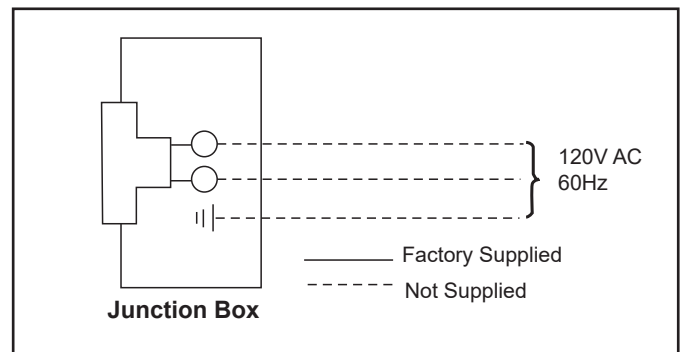

Figure 1 - Junction Box Wiring Diagram
3. The junction box cover has a factory installed "romex" style strain relief connector. After connecting the wires, route the wire leads through this connector. Refer to the wiring diagram in Figure 1.